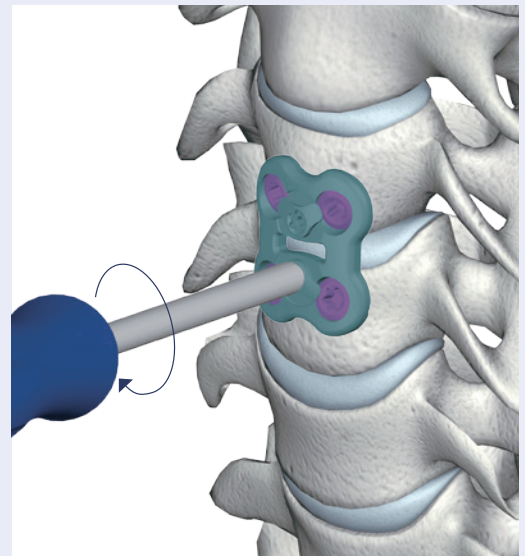

Figure 13
- Rotate the CAP clockwise until the CAP is parallel with the vertebral body (Figure 13) Be careful to ensure that the CAP is not over turned, as damage may occur.